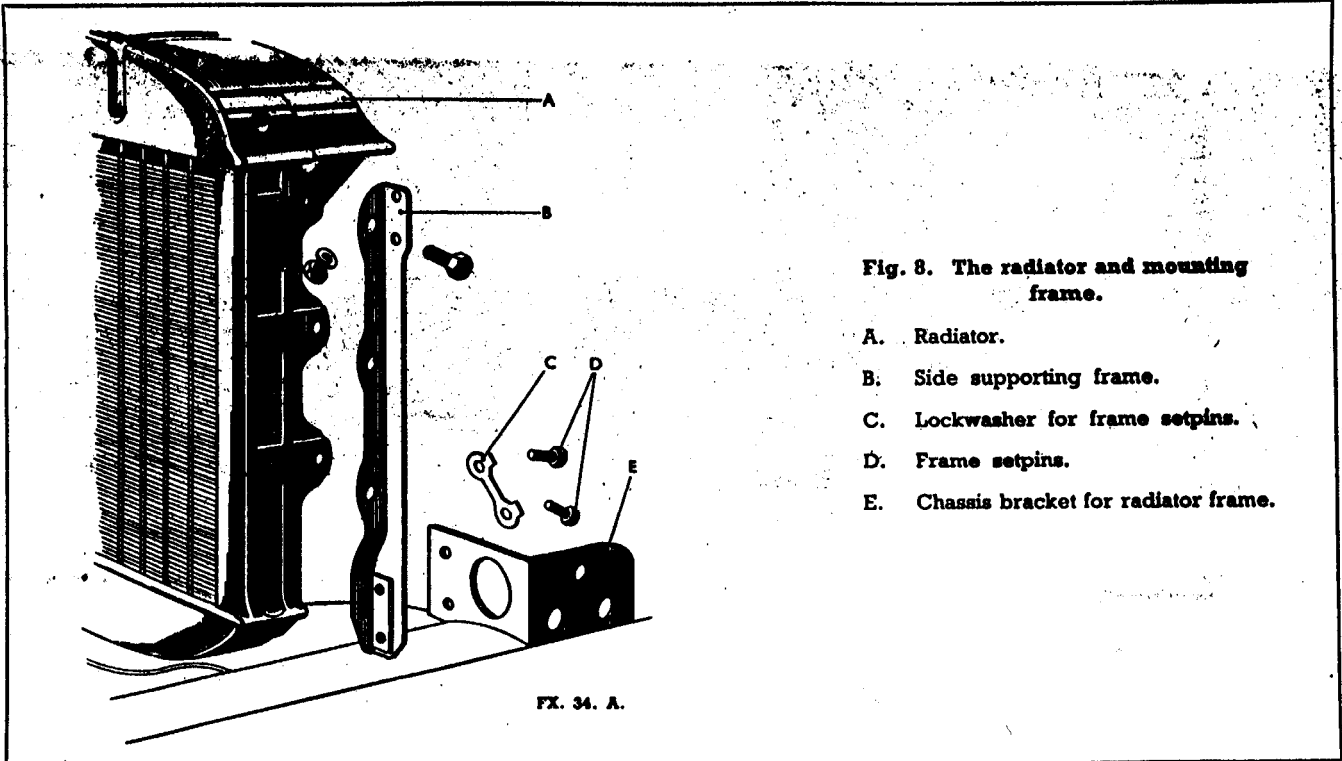

Fig. 8. The radiator and mounting frame.
To start the engine from cold, the strangler control on the fascia panel is extended, which causes the strangler flap (1, fig. 8) to close off the air intake of the carburetter. The same action will cause the throttle to open slightly by means of the inter-connection rod (6).